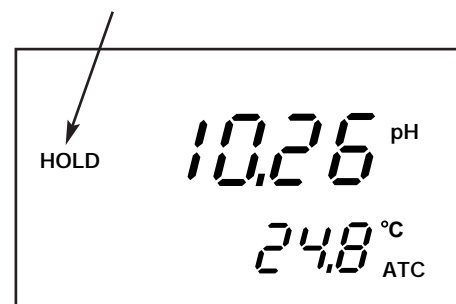

Figure 22
1. To hold a measurement, Press the **HOLD** key while in measurement mode. "**HOLD**" will appear on the display. —See Figure 22.